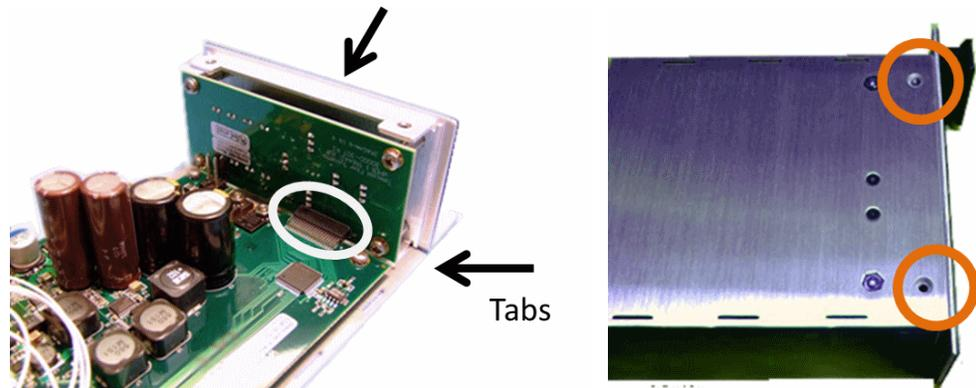

Fig. A-13: Securing the front panel
- 17 Secure the front plate with the two screws as shown in Figure A-13.